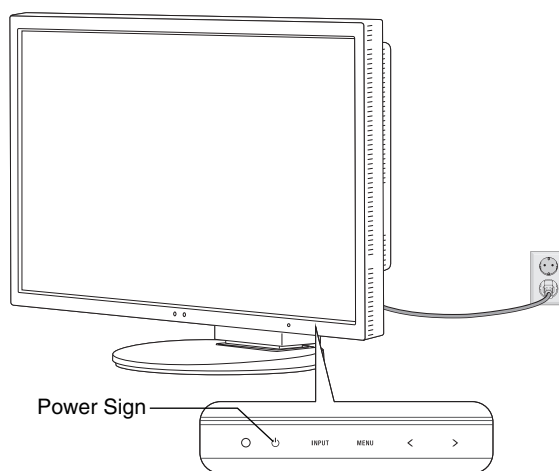

Figure E.1
- Turn on the computer and the monitor by pressing the power key on the front bezel (**Figure E.1**).